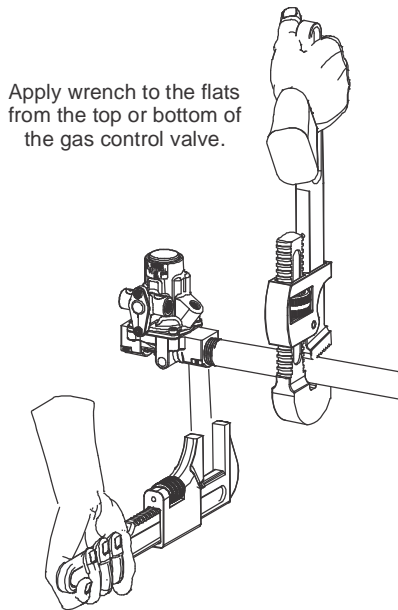

Figure 2: Proper Use of Wrench on Gas Controls
6. Ensure the gas flows through the valve body in the direction indicated by the "IN" and "OUT" on the body. If the valve is installed with the gas flow in the opposite direction, leakage can occur. Connect pipe to gas control inlet and outlet. Use a wrench on the square ends of the control. This process should be used for both the install and removal of the valve in a gas system, (see Figure 2).